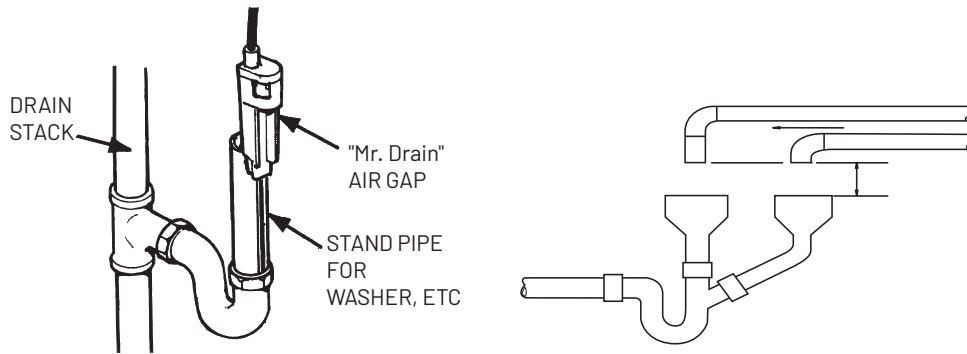

Figure 6
The air gap must be open and free of obstructions to achieve a proper backwash rate (see figure 6).
- The air gap should be installed between the end of the drain line and the drain to prevent possible back siphoning (see figure 6).